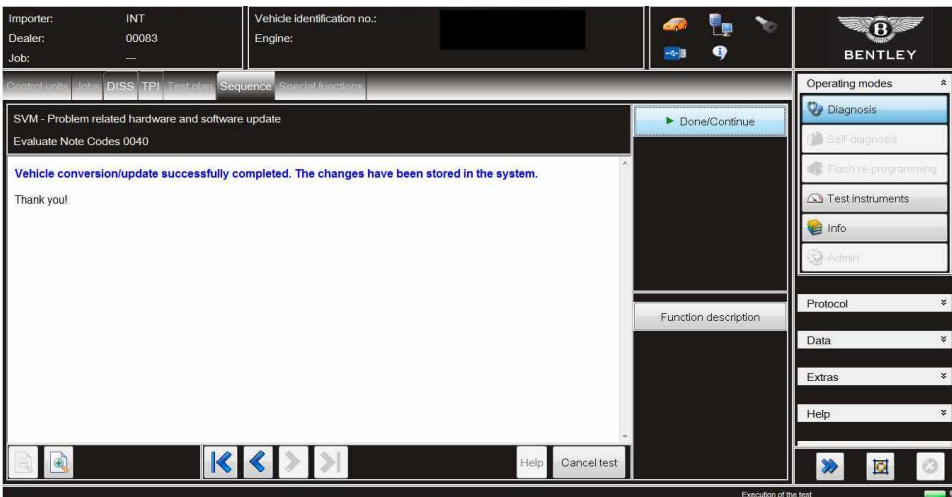

Figure 4
7. Once the software update is complete, a confirmation screen will be evident to clarify the update has been successful (Figure 4)